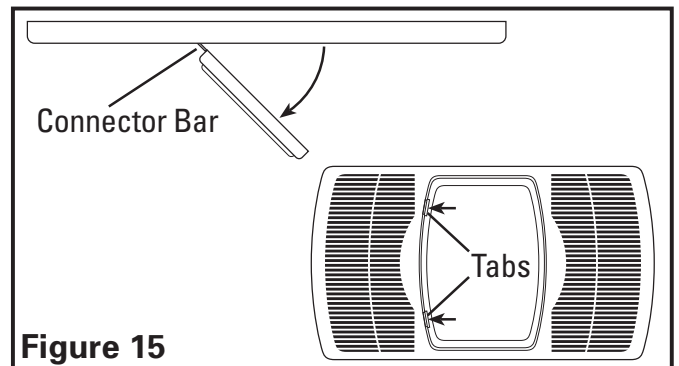

Figure 15
6. Close the light lens and secure in place by swinging back into position and snapping the tabs in place (Figure 15).